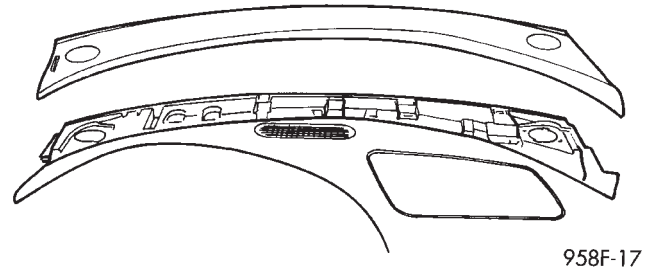

Fig. 4 Instrument Panel Top Cover
- (1) Remove instrument panel top cover:
- (b) Carefully, pry up each end of top cover to disengage clips (Fig. 4).